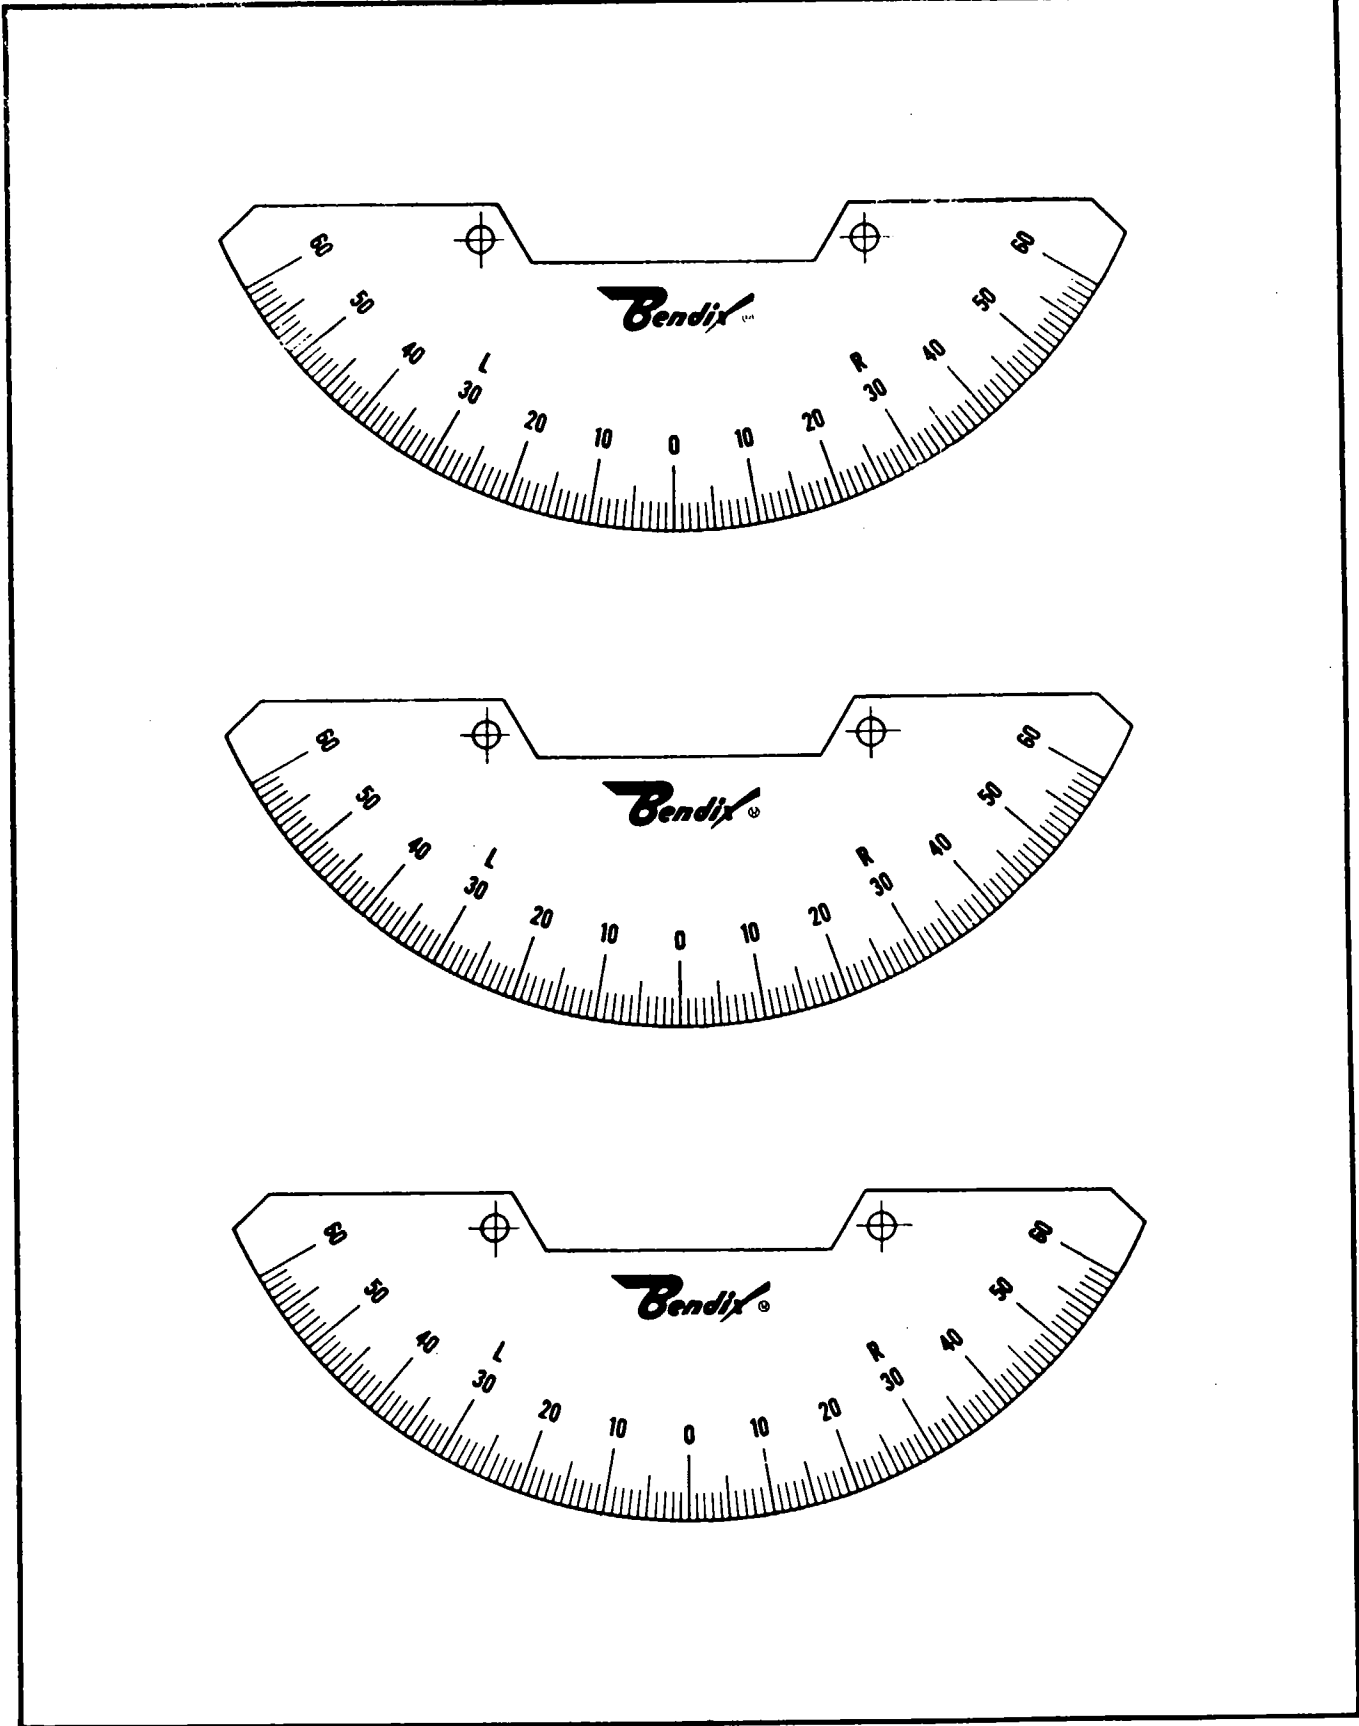

Figure 12-9. Magneto Timing Templates
1. Cut a paper template from figure 12-9.
The No. 1 magneto outlet is identified with the No. "1." The magneto fires at each successive outlet in direction of rotation. No. 1 magneto outlet routes to No. 1 cylinder, No. 2 magneto outlet to the next cylinder to fire, etc. Ignition schematics are shown in figures 12-9 thru 12-12.